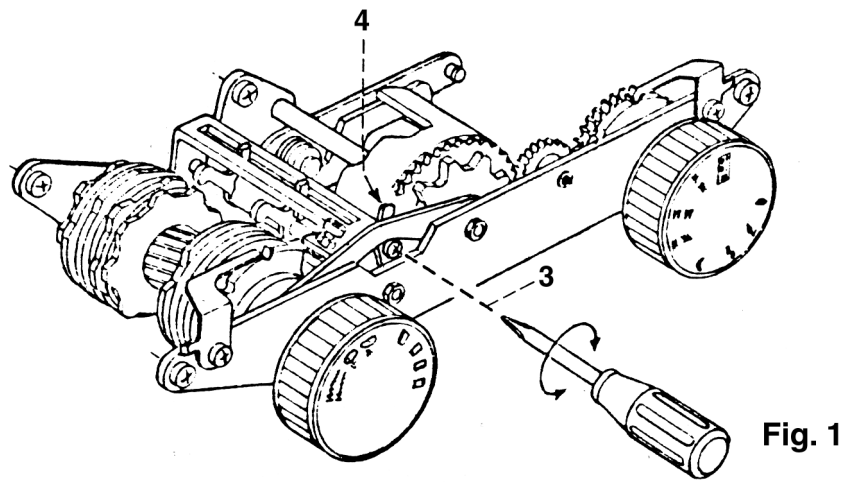

Fig. 1
When the right control knob is rotated, the lifting clearance between the feeler finger and the highest points of the cams must be 0.2-0.3 mm (fig. 1).
- Loosen screw 3 (fig. 1 and 1a).